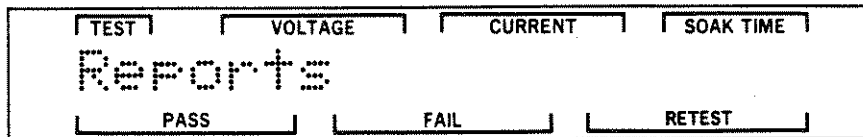

Figure 3-18. Printed Report Entry Screen
STEP 4. Press the DOWN pushbutton. The display will change to the entry screen for the printed reports. Figure 3-18 is an example of this screen. For more information, refer to Printer Output Screens, Section 3.4.3.5.